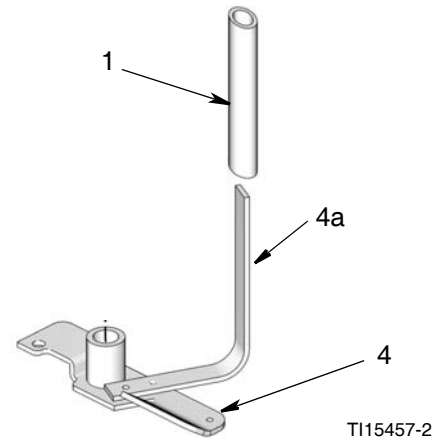

FIG. 7
1. Lightly grease stirring paddle arm (4a) with same grease you are using in the pump (FIG. 7).
2. Slide wiper (1) over arm (4a) on stirring paddle (4) (FIG. 7).